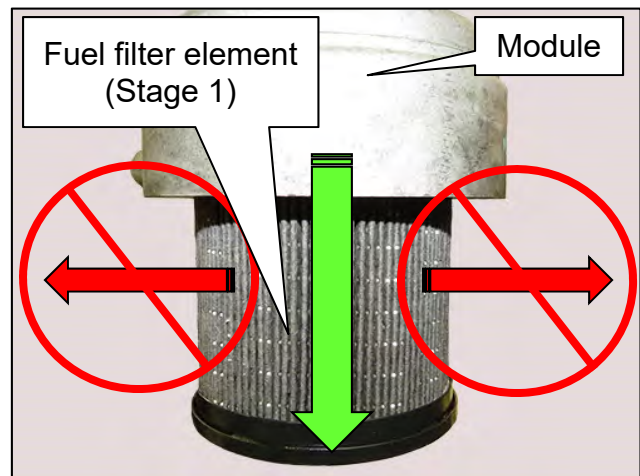

Figure 9
**IMPORTANT:** If the fuel filter element (Stage 1) stays attached to the module (Figure 9), do not bend, or exert a side force on the fuel filter element (Stage 1) when removing. This may damage the module and result in a no-start.